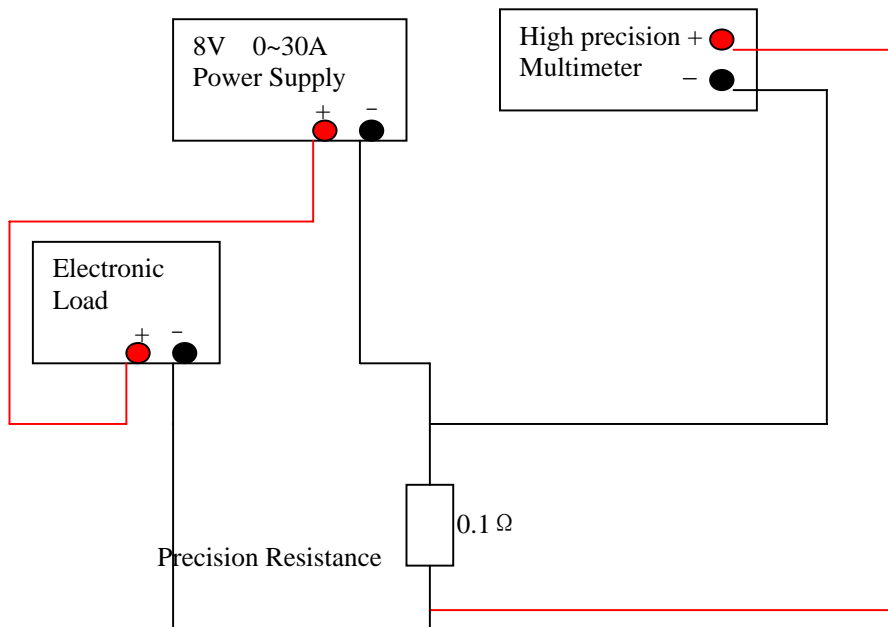

Figure 3.
① Make the connection as Figure 3.